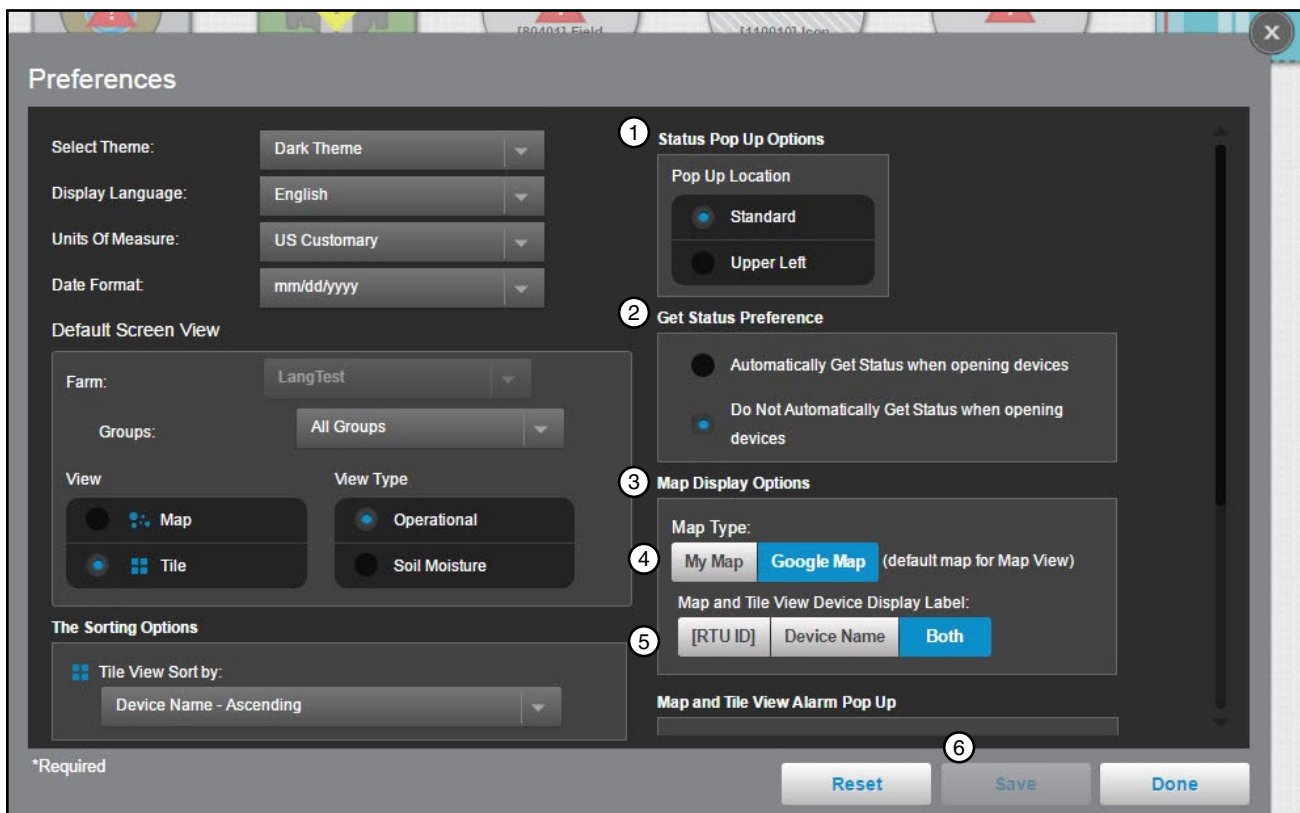

Figure 102-1 1. Status Pop Up Options
Status Pop Up Options: Allows users to pick where pop ups appear. To enable a preferred location, check Standard or Upper Left, as seen in Figure 102-1.
Get Status Preference: Provides users with an option to automatically Get Status when opening devices. Check either Automatically Get Status or Do Not Automatically Get Status to choose an option. See Figure 102-1.
- **Map Type:** To select a default map for Map View, click on either My Map or Google Map. See Figure 102-1.
- **Map and Tile View Device Display Label:** Choose a display label, which can be [RTU ID], Device Name, or both. See Figure 102-1.